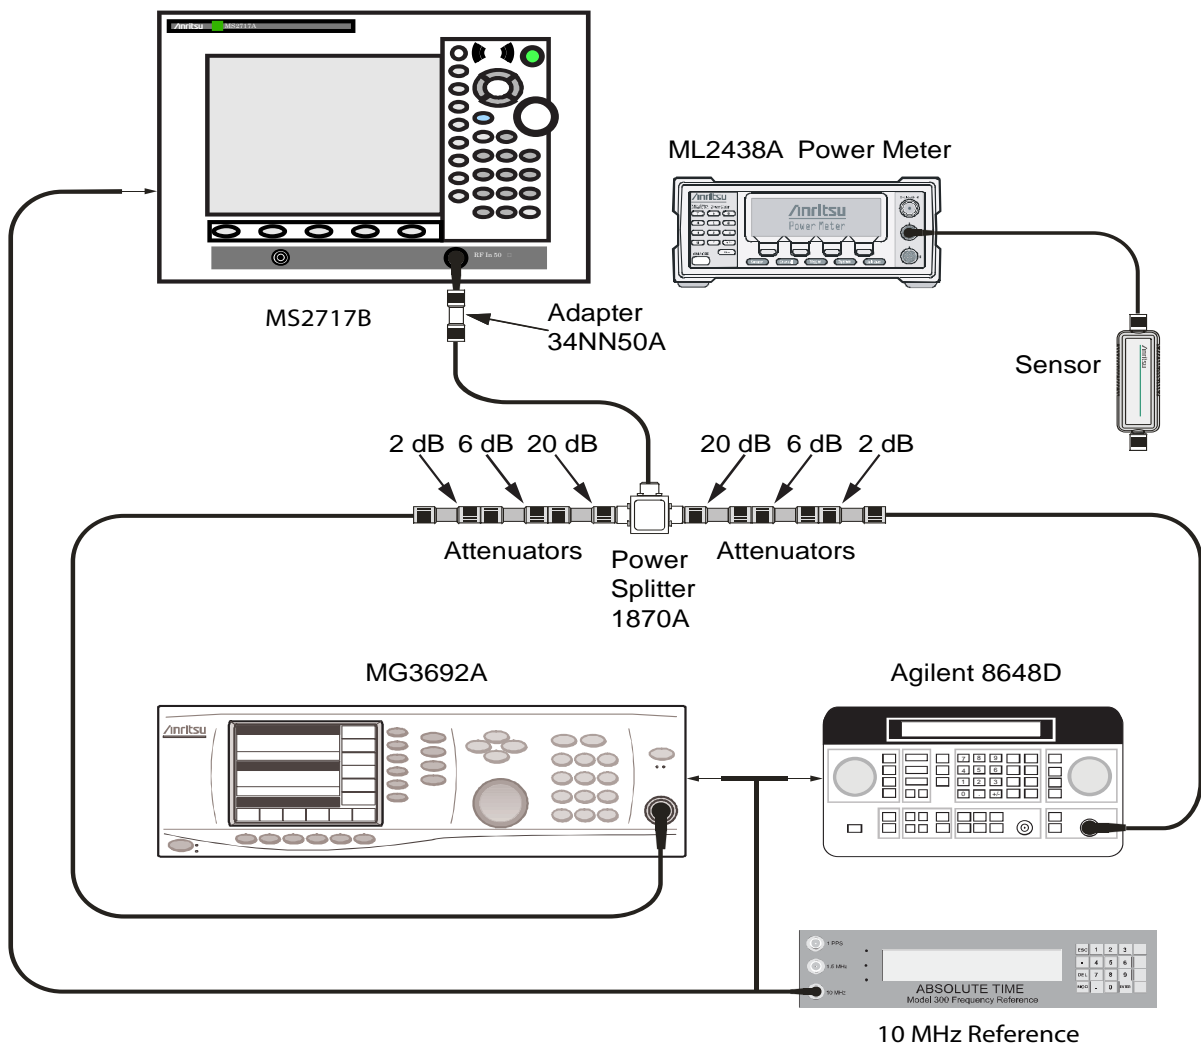

Figure 2-2. Third Order Intercept 600 MHz Test Setup
8. Set the MS2717B to Spectrum Analyzer mode, then press **Shift** and press **Preset (1)** to preset the MS2717B, then set up the MS2717B as follows:
9. Press the **Shift** key and the **Sweep (3)** key. Press **Detection**, and press **RMS** (red dot appears on the label).
10. Disconnect the power sensor from the output of the splitter, and connect the splitter output to the MS2717B Spectrum Analyzer RF In connector through the Anritsu Model 34NN50A adapter as shown in Figure 2-2.